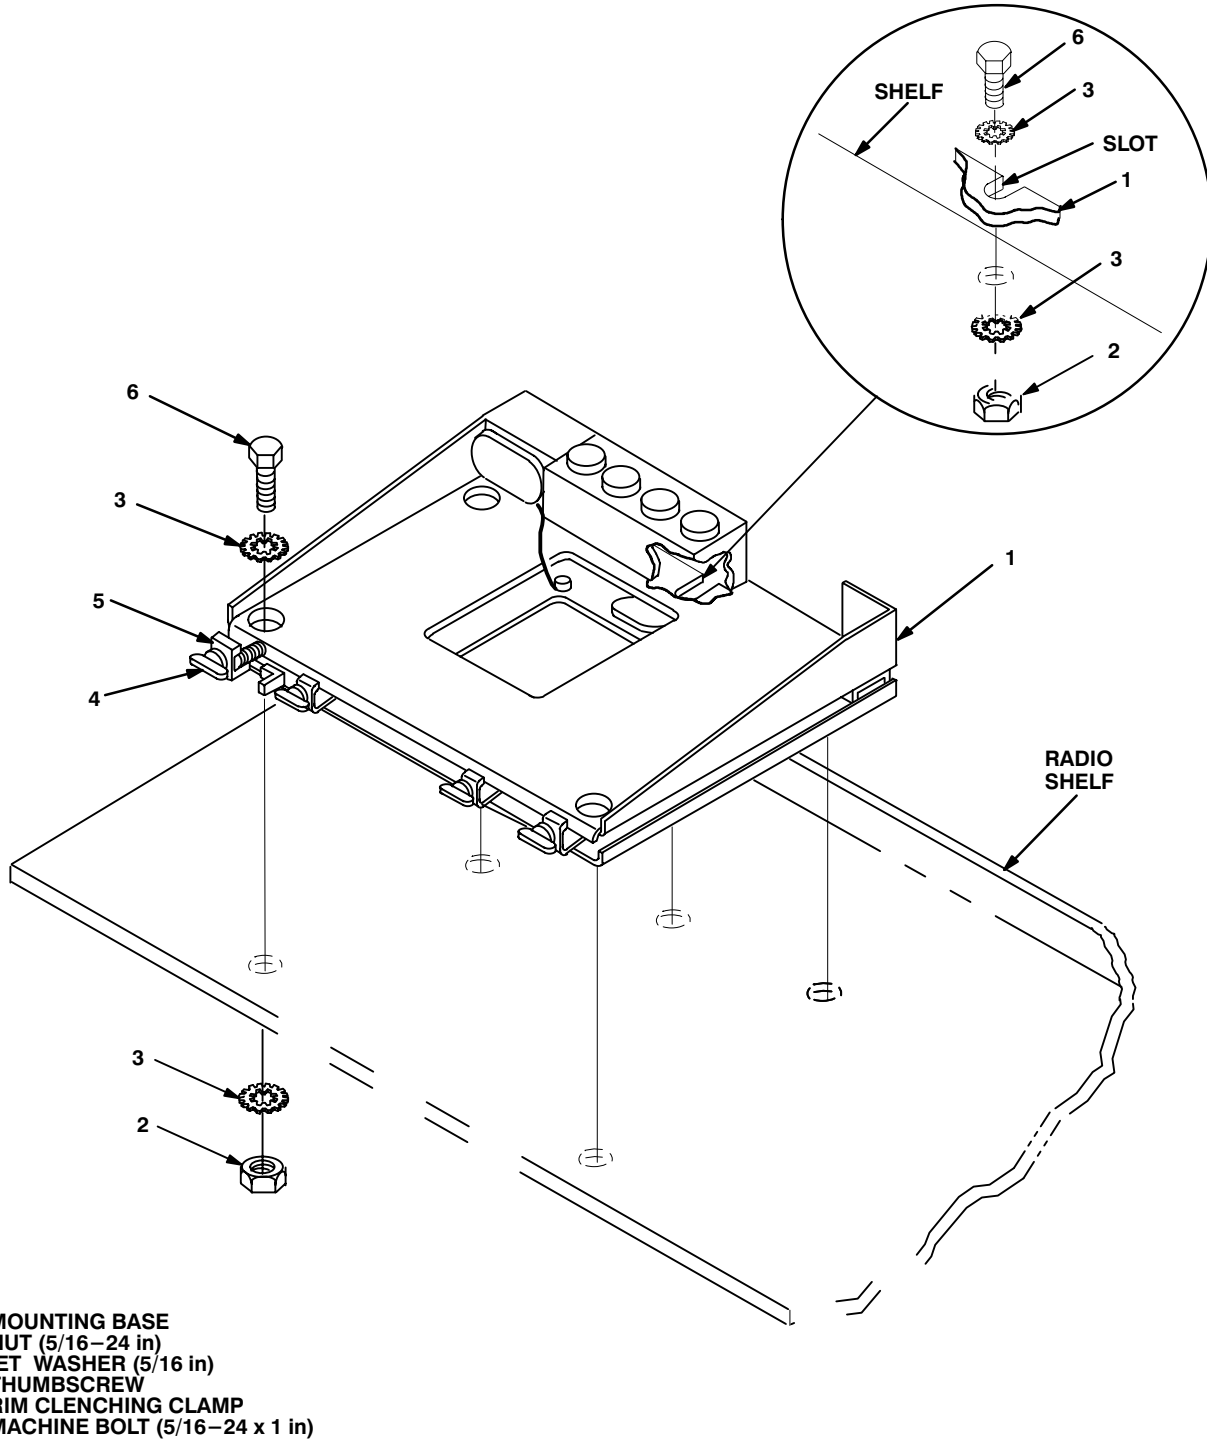

Figure 5-4. Mounting Base Installation: Radio Shelf
5.2 Installation of Mounting Base, Electrical Equipment MT-6352/VRC (mounting base). Remove and retain attaching bag of 5/16 in mounting hardware for installation. To insure good electrical grounding, any rust, corrosion or paint around mounting holes in equipment shelf should be removed before installing mounting base. See figure 5-4 and perform steps.